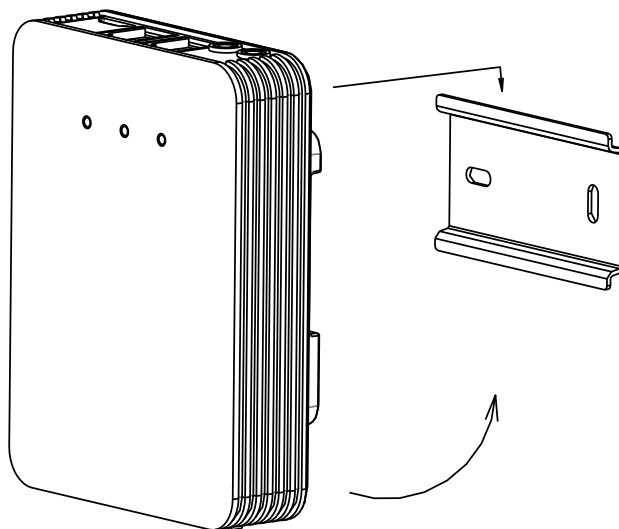

Figure 6-4 Buckle the Main Unit
2. Hang the hook which is on upper-side of the main unit onto the rail, press a little harder on the lower part of the main unit, and then the elastic clasp will be automatically buckled. As shown in figure 6-4